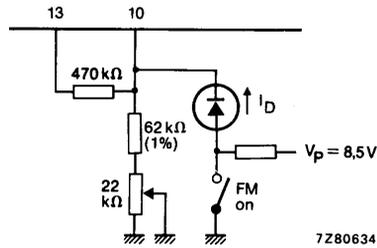

Fig. 4 The oscillator is switched-off when:  $I_D > 50 \mu A$  and  $I_D < 1$  mA.
5. Switching 'OFF' the oscillator; see Fig. 4.